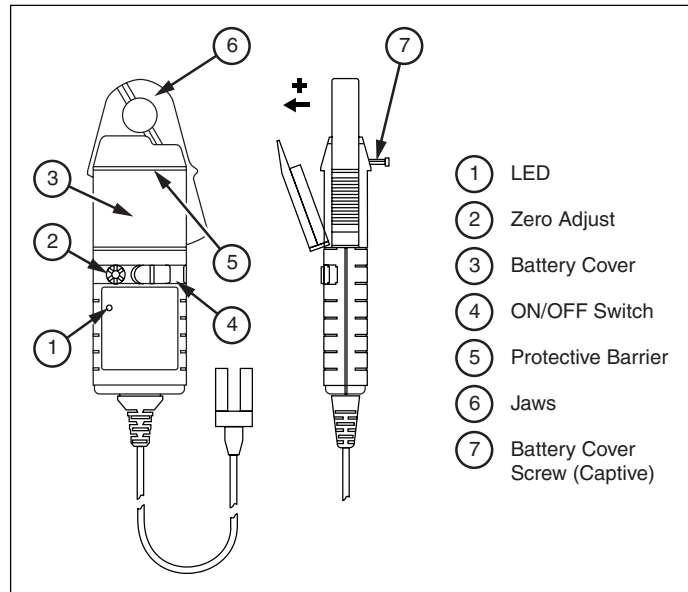

Figure 1. i30s & i30 AC/DC Current Clamps
To avoid injury, when using the probe ensure that your fingers are behind the protective barrier as shown in Figure 1. Do not use the probe if any part of the probe, including the lead and connector(s), appear to be damaged or if a malfunction of the instrument is suspected.
The red LED will flash when the minimum operating voltage is approached. Refer to Fig.1. Use the following procedure:
2. Loosen the captive screw that secures the battery cover. Lift the cover through 30° and pull it clear of the probe body as shown in Fig 1. The battery is then accessible. Replace the battery and re-fit the battery cover and fasten the screw.